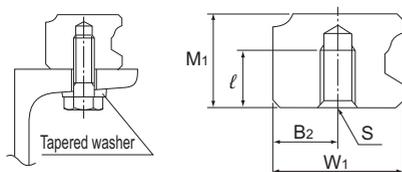

Fig.2
- (1) Determine the bolt length so that a clearance of 2 to 3 mm is secured between the bolt end and the bottom of the tap (effective tap depth).
- (2) As shown in Fig.2, a tapered washer is also available that allows GSR to be mounted on a section steel.
- (3) For model number coding, see **A1-290** to **A1-291**.